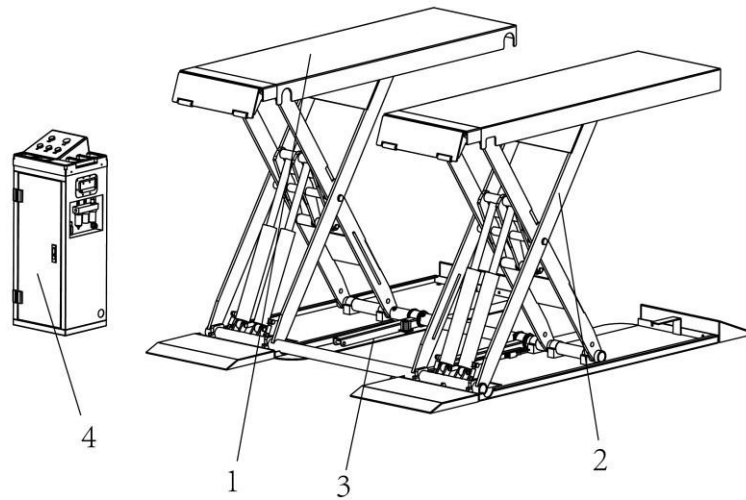

Fig. 3: Entire structure
5. Safety devices (mechanical lock + pneumatic valve + hydraulic safety system); Figure 3 illustrates the various parts of the lift and the work areas intended for use by operators.
1.1 FIXED STRUCTURE (FIG. 3)
1.2 MOVING PARTS (SEE FIG. 3)
1.3 LIFTING ASSEMBLY (SEE FIG. 3)
7. Three flexible hoses made of a 40 MPa steel wire blend, two groups of 1.2 MPa hoses (Fig. 3).